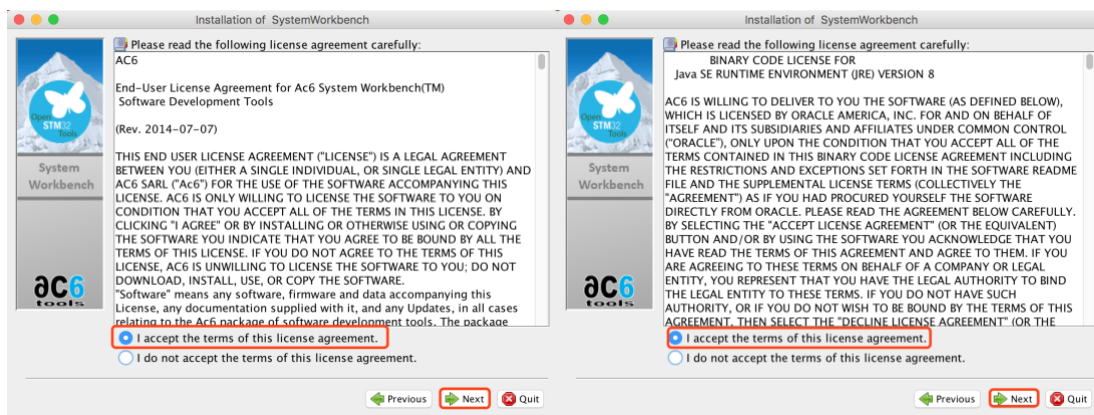

Figure 4: Agree the license agreement for System WorkBench.
9. Click on Next to continue. Accept all the license agreement and click next to continue as Figure 4.